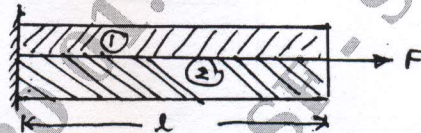

Fig.Q2(a)
- 2 a. Write the equations evolved in the solution of problem of a composite material shown in Fig.Q2(a) subjected to force 'F' with usual notations [① & ② are different materials]. (05 Marks)